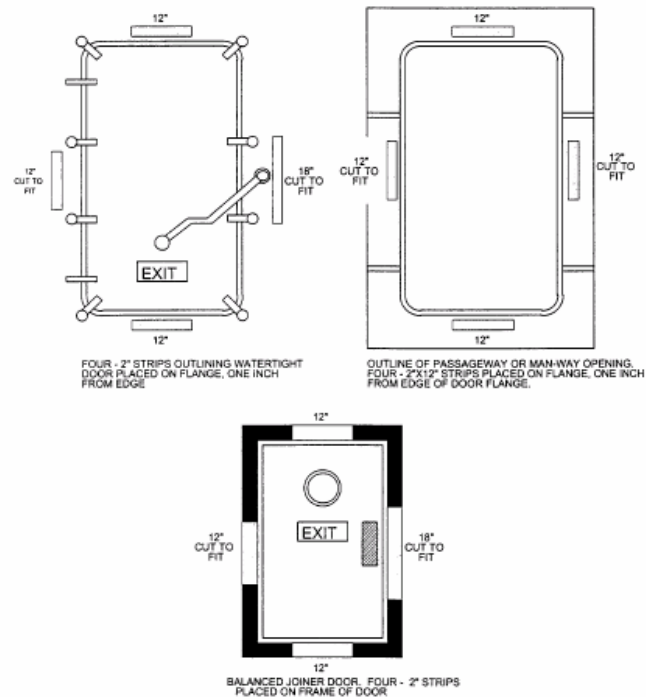

Figure 2
i. Each door passed through along egress routes will be marked by photoluminescent strips around the outside perimeter to illuminate the opening as shown in Figure 2. The size of strips can be tailored to fit the door requirements. A minimum of one strip on each side, one above and one below the opening will be used. The same applies to openings without doors that must be stepped through along the route (i.e., knee-knockers, open man-ways). The word EXIT is to be placed on each door in a normal egress route, six inches above the bottom of the door. This includes doors of berthing compartments and workspaces. Doors opening to weather are not to be marked. Marking of doors leading out of staterooms is optional.